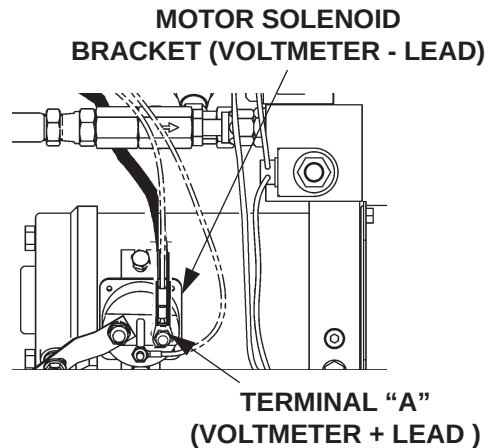

FIG. 52-1
1. Connect voltmeter between Motor Solenoid Terminal "A" and Bracket (**FIG. 52-1**) to verify that battery power is getting to "A". Recharge the battery if voltmeter indicates less than 12.6 Volts DC.